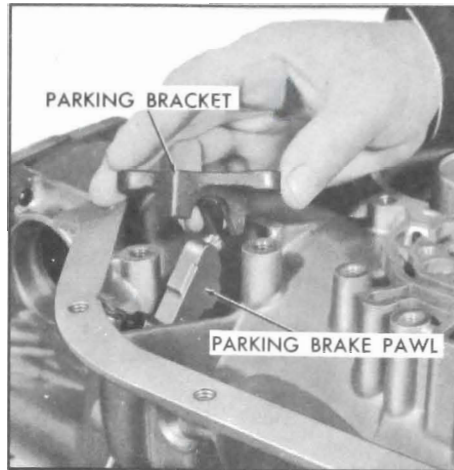

Figure 5-691
5. Install the parking brake bracket, guides over parking pawl, using two attaching bolts torque to 15-20 ft. lbs. See Figure 5-691.